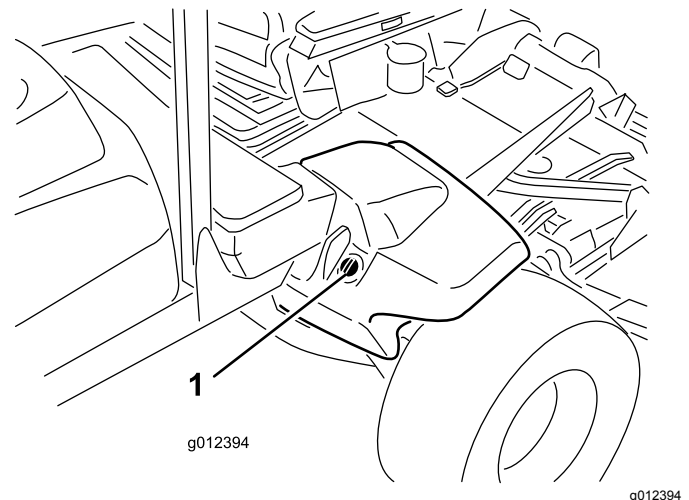

Figure 21
2. Clean the area around the filler neck and cap of the hydraulic tank (Figure 21). Remove the cap from the filler neck.